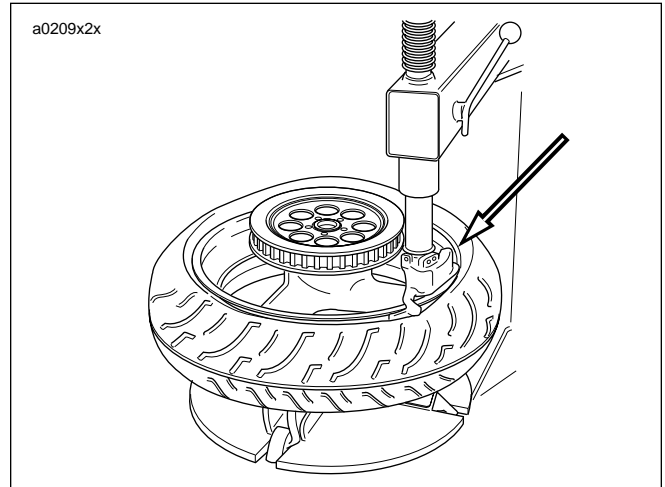

Figure 2-23. Starting Bead on Rim (Typical)
5. See Figure 2-23. Starting at the valve stem, start first bead into the rim well using a tire machine. If no machine is available, work bead on as far as possible by hand. Use a tire tool to pry the remaining bead over rim flange.